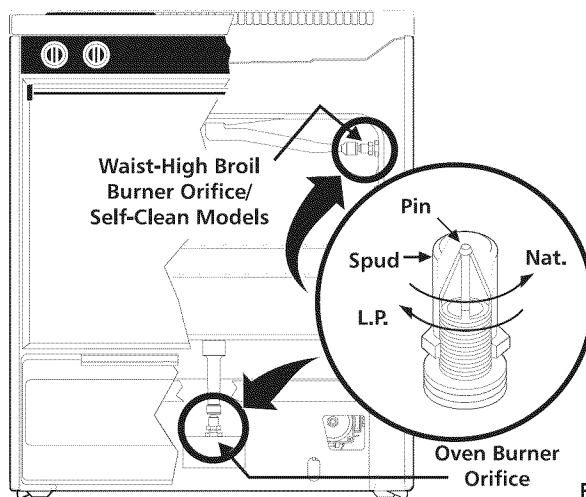

Fig. 7
- Locate the oven burner spud (See Fig. 7).
- Locate the broiler burner spud and turn down until snug against the LP/Propane metering pin (approximately 1 to 1-1/2 turns). **DO NOT** over tighten (See Fig. 7).